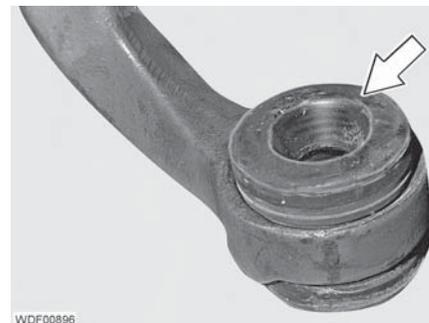

Fig. 62 Installation position
- Position the new rubber buffers in such a way that the sinkhole points away from the engine mount (Fig. 62).